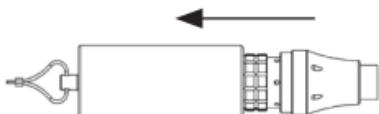
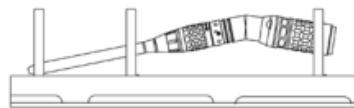

Figure 1
Figure 2
Note: Prior to using G1 Cleaning and Sterilization Basket for first time, attach connector sleeve to basket by clipping onto internal support structure (Figure 2). The connector sleeve should remain with basket for future use.
- Remove connector sleeve from handpiece connector (Figure 1). Replace connector sleeve in its bracket and lay handpiece connector in bottom of basket.
Warning: Handpiece connector sleeve must be removed from the handpiece connector prior to sterilization (Figure 1). Consult G1 Cleaning and Sterilization Basket Loading Diagram for validated loading configurations. Angled attachments must be loaded in the correct orientation as shown in Figure 2.